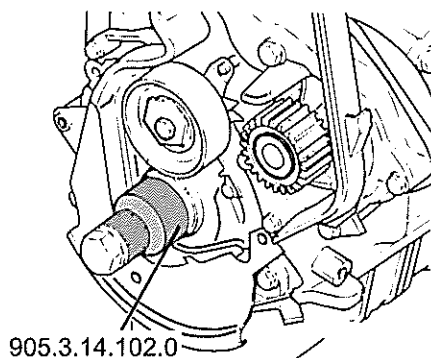

Fig 5 Crankshaft oil seal – belt pulley end (refitting)
21.3 Press in oil seal as far as possible with pressure sleeve from tool 905.3.14.102.0 and central bolt of vibration damper (see Fig 5).